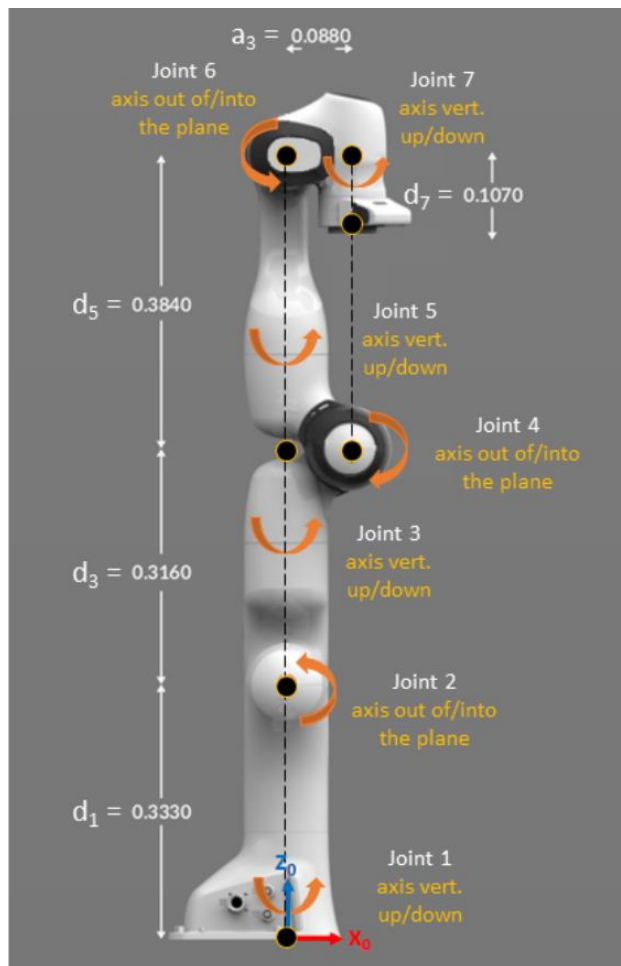

Fig.3: Panda Robot - Home configuration
1. Draw all the D-H coordinate frames for Fig. 3.
- a. The base frame {0} is included in Fig. 3. The final end-effector frame {n} can simply replicate the frame preceding it.